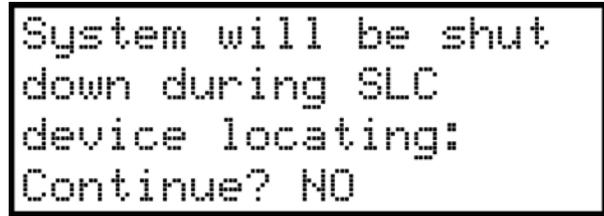

Figure 10.1 Shut Down Warning
A message similar to the message shown in Figure 10.1 displays.
- A message similar to the one shown in Figure 10.1 will display.